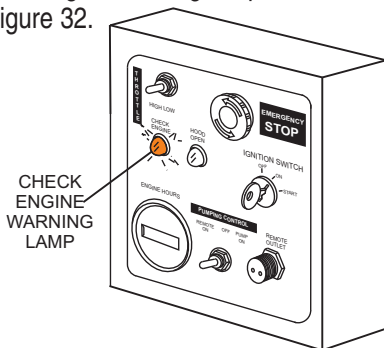

Figure 32. Engine Warning Lamp
The Mayco C-30HDG concrete pump features an engine malfunction indicator lamp found on the control box (Figure 32). When a malfunction in the operation of the engine is detected, the orange check engine light will illuminate.
3. Verify that check engine warning lamp on the control box is on (lit). See Figure 32.